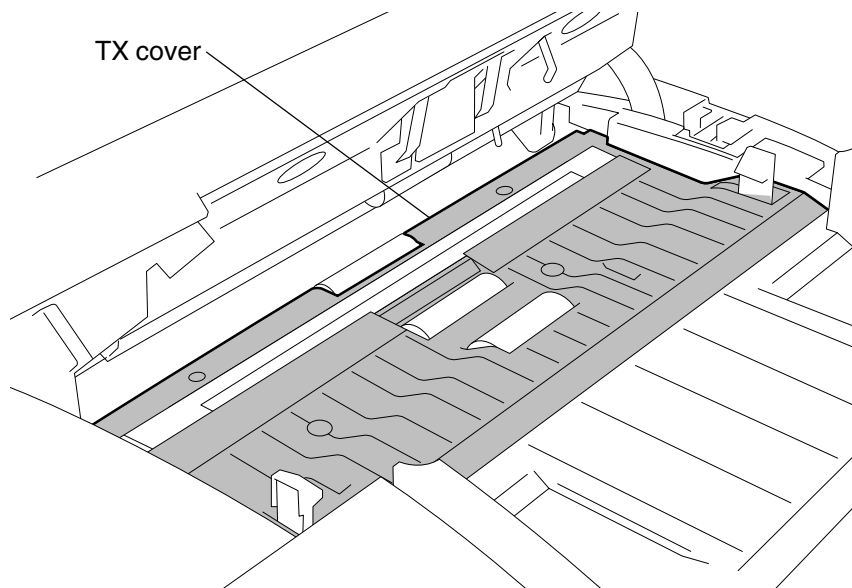

Fig. 10-2-7
7. Tx cover (refer to Fig.10-2-7)